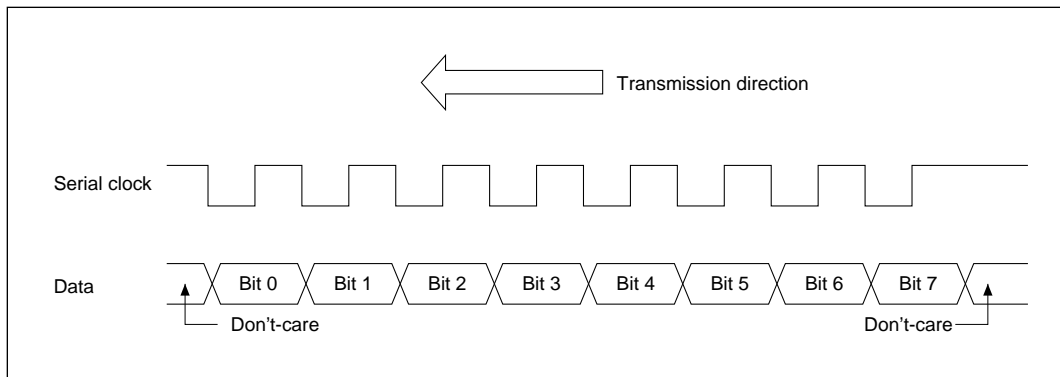

Figure 14-4 Data Format in Synchronous Mode
- Data Format:** Figure 14-4 shows the communication format used in the synchronous mode. The data length is 8 bits for both the transmit and receive directions. The least significant bit (LSB) is sent and received first. Each bit of transmit data is output from the falling edge of the serial clock pulse to the next falling edge. Received bits are latched on the rising edge of the serial clock pulse.